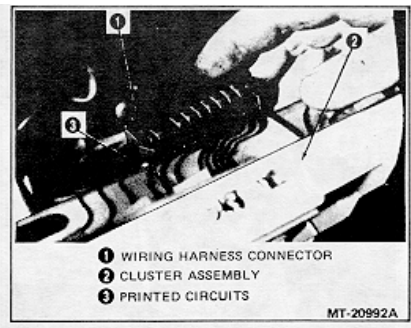

Figure 3 - Removing Wiring Harness Connector
3. Disconnect wiring harness connector from printed circuit on back of cluster assembly (Figure 3).